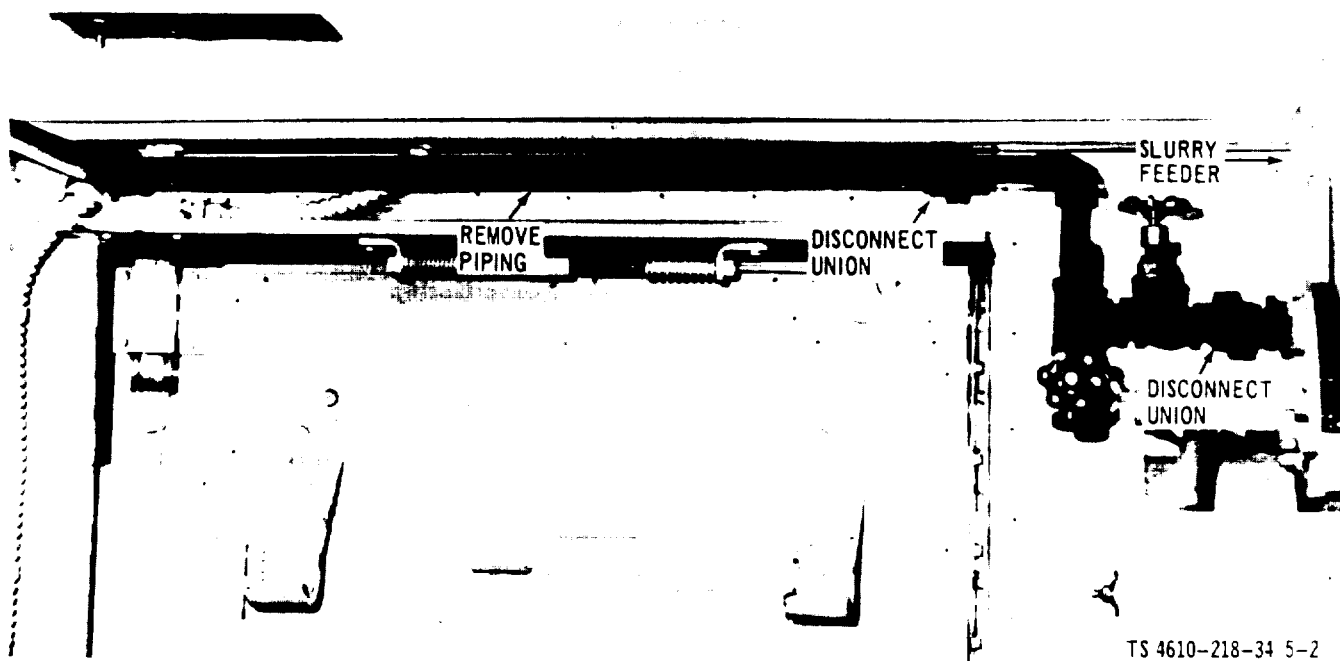

Figure 5-2. Piping Between the Main Filtered Water Lines and Slurry Feeder, Removal and Installation
(2) Remove the filtered water piping as illustrated in figure 5-2.
(6) Install the filtered water piping as illustrated in figure 5-2.